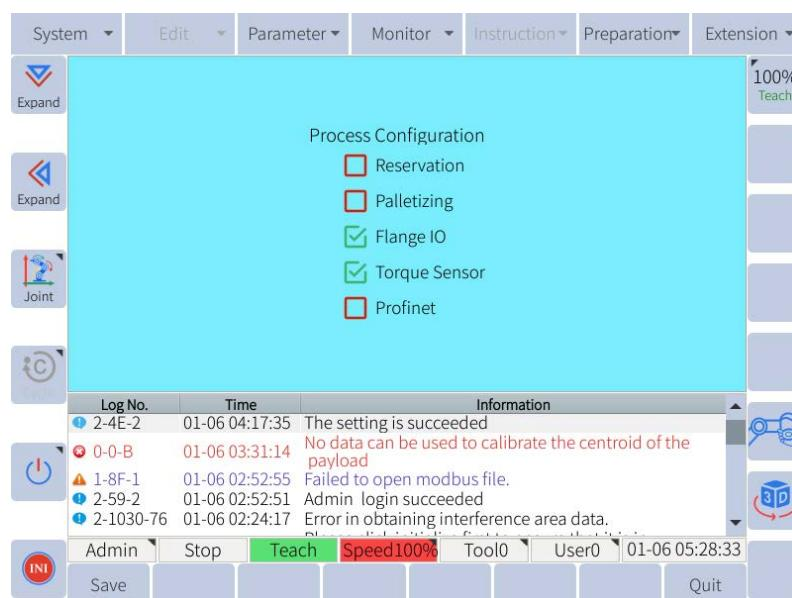

Figure 6-27 : Selecting “Flange IO” and “Torque sensor”
- Before the configuration, please make sure that the user right has been changed to the administer. Users can click **Preparations->Process config** to select “Flange IO” and “Torque sensor” in the settings and save it, as shown in **Figure 6-27**. After the setting, the prompt “Take effect after restart, continue?” will appear in the display. Please click “Ok” and restart the robot.